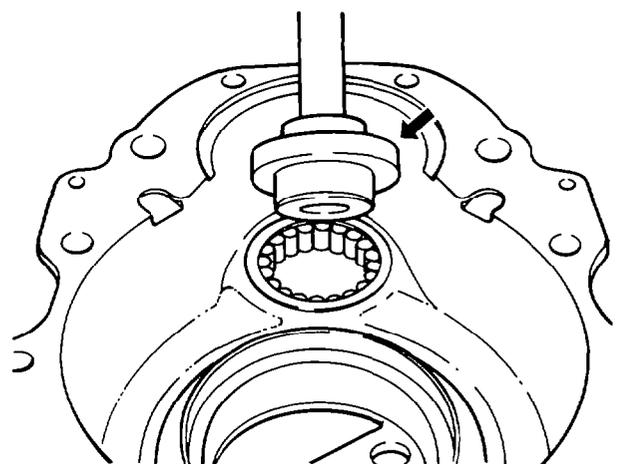

Figure 52 Installing the Small Roller Bearing
- Use Special Tool No. 8 to install the small roller bearing in the outer casing (see Fig 52).